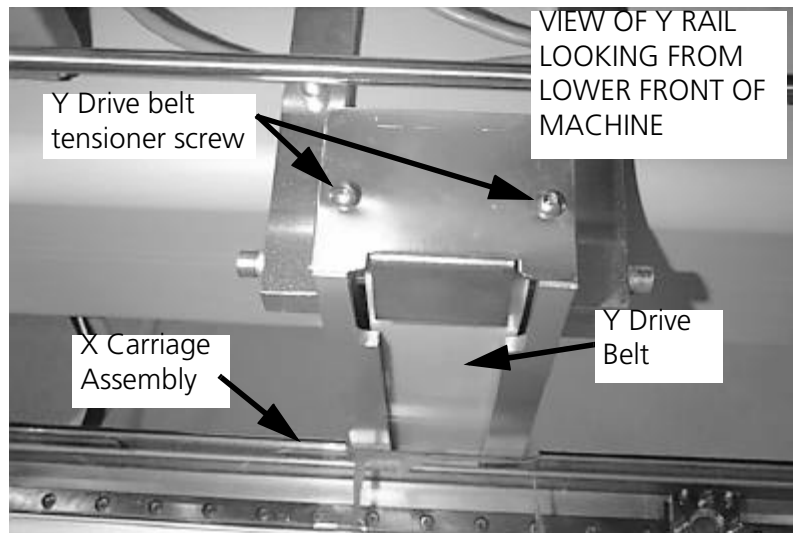

Figure 6-5
7. To adjust the belt tension, tighten or loosen the screws at the front of the Y rail shown in Figure 6-5.